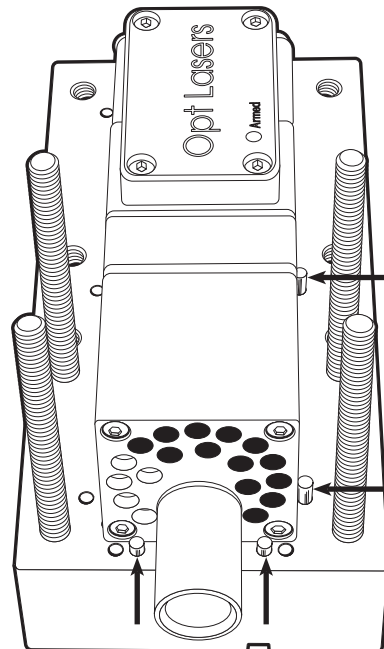

FIGURE 6—The arrows show the locating pins.
- Place your laser on the front of the laser mount (see Figure 6). Push the laser against the bottom locating-pins and the side locating-pins. This will ensure that the laser is held square to the laser mount.